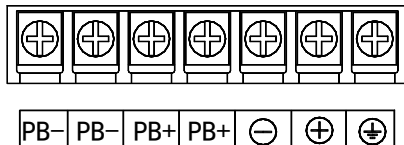

Figure 5-3 Main Circuit Terminal Block of BR100-045
- BR100-045 Main circuit terminal as shown in Figure 5-3